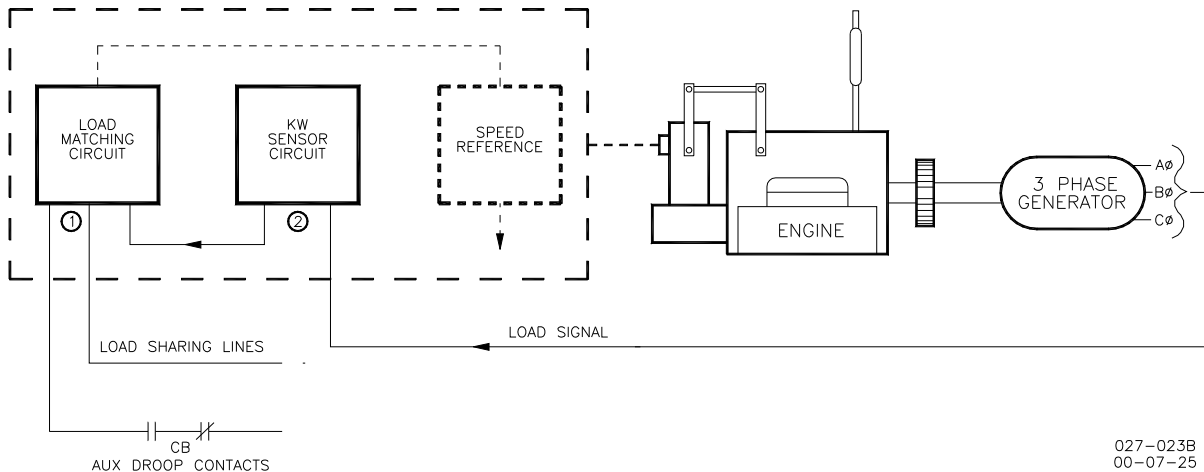

Figure 3-4. Paralleling System
There are two basic methods used for paralleling: droop, where speed decreases with load increase, and isochronous, where speed remains constant with load increase. The paralleling system shown in Figure 3-4 consists of a load matching circuit (1), and kW sensor circuitry(2).